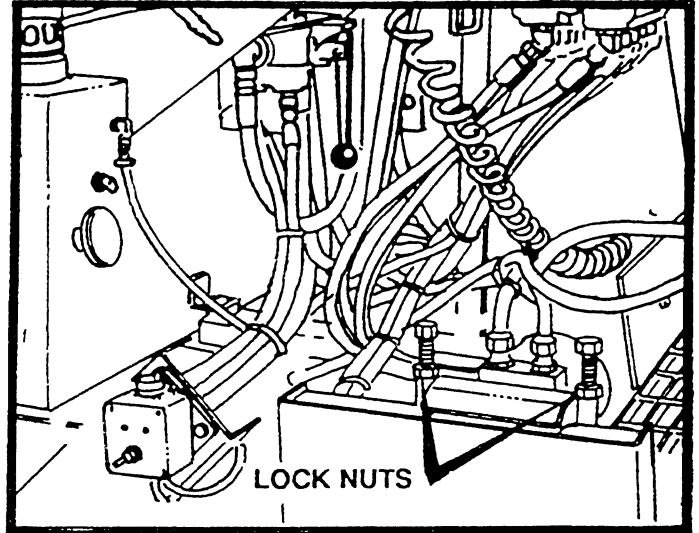

FIGURE 48
3. Look at drive chain through the top of the frame. If drive chain has a whip in it, adjustment is necessary. See figure 48.